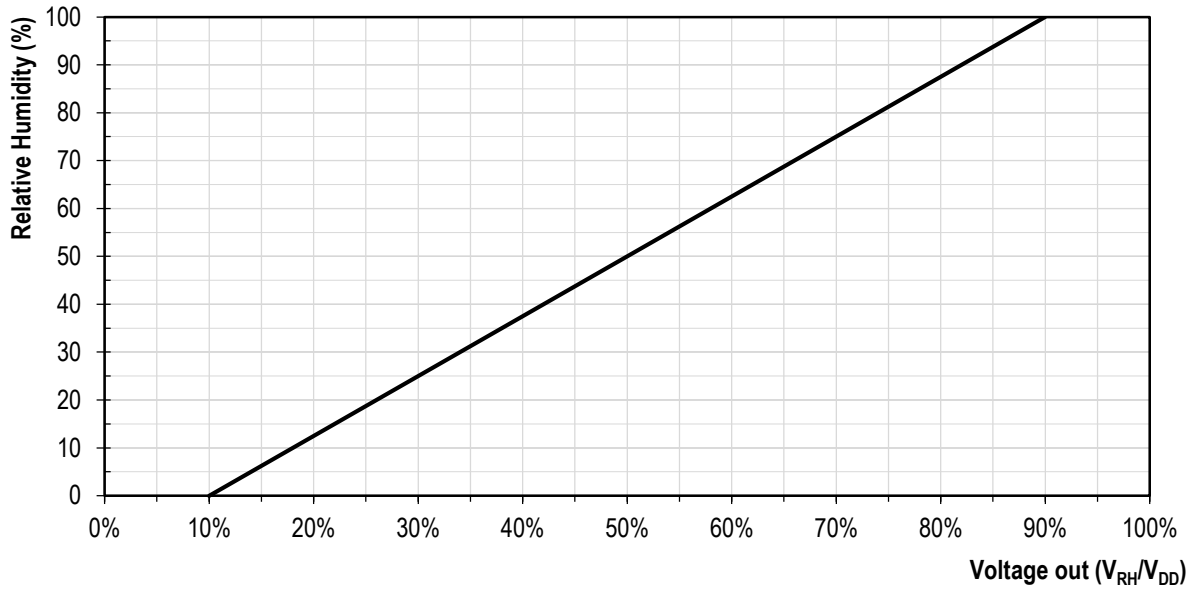
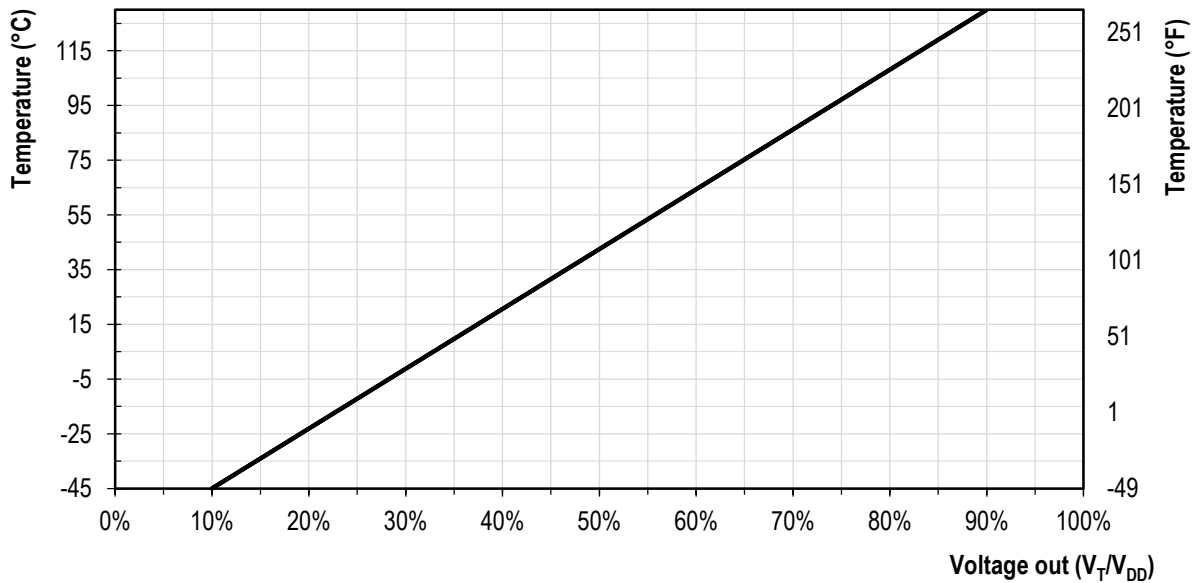

Figure 9 Relationship between the ratiometric analog voltage output and the measured relative humidity.
Figure 10 Relationship between the ratiometric analog voltage output and the measured temperature
This allows to describe the relationship between physical values (RH and T) and the voltage output for temperature and humidity (V_x , $x=T$, RH) through a generic linear formula given by equations (1), (2) and (3); its graphical representation can be found in Figure 9 & Figure 10.